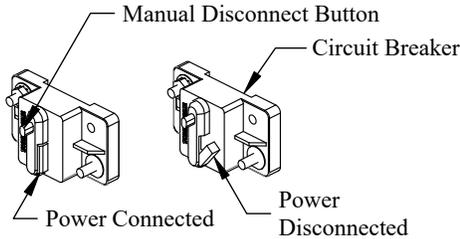

Figure 10: Circuit breaker.
2. Disconnect the #4 power cable from the positive side of the battery or manually Trip the circuit breaker (Figure 10).
27. **Reconnect** the liftgate's main power cable to the positive side of the battery or manually **Engage** the circuit breaker (Figure 10).